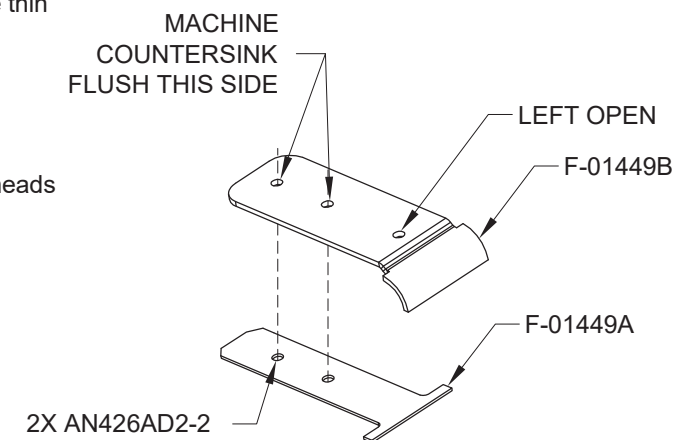

FIGURE 3: HINGE COVER ASSEMBLY
Step 10: Machine countersink the holes in the F-01449B Hinge Covers to fit the head of an AN426AD2 rivet as shown in Figure 3.
Step 11: Rivet together two Hinge Cover Assemblies as shown in Figure 3. Under-set the rivets slightly to avoid pucker and deformation due to the thin aluminum of the F-01449A Cover Clips.